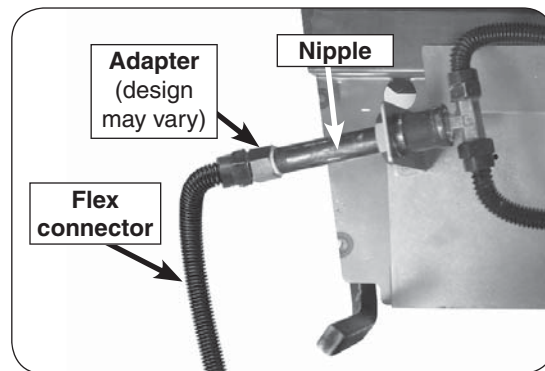

Fig. 10-1 Connect flex to burner
3. Remove the small adapter connected to the flex connector (included). Attach the adapter to the nipple found on the bottom of the burner pan using a pipe compound resistant to all gasses. Tighten securely. Then attach the flex connector to the adapter. Tighten securely (See Fig. 10-1).